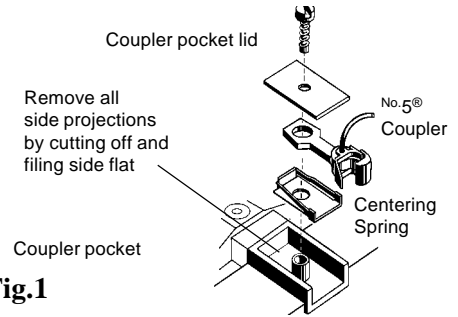

Fig.1
2. If any internal side protrusions are present in the coupler pocket, see Fig.1, remove them by cutting and/or filing until surface of sides are smooth and flat. Additional filing of sides may be required in some instances to fit spring.
3. Place Centering Spring on top of Coupler and insert into coupler pocket and secure lid. See Fig.1 for typical installation.